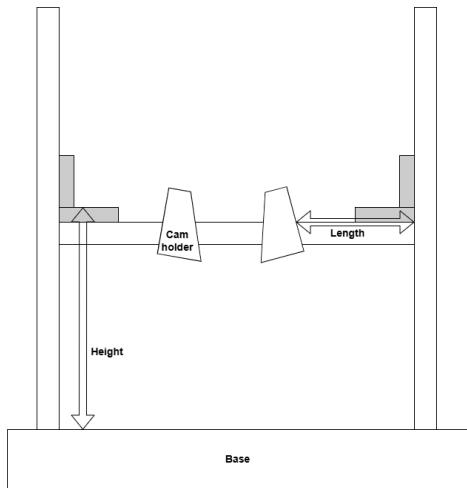

Figure 2: Camera stand measurement references
- * Angled perspectives with camera holder adjusted through different screw configurations for capturing **depth variations**(Figure 2).
- **Height of the stand:** 64 cm, measured from the black base to the end of the l element, as shown in Fig. 2.